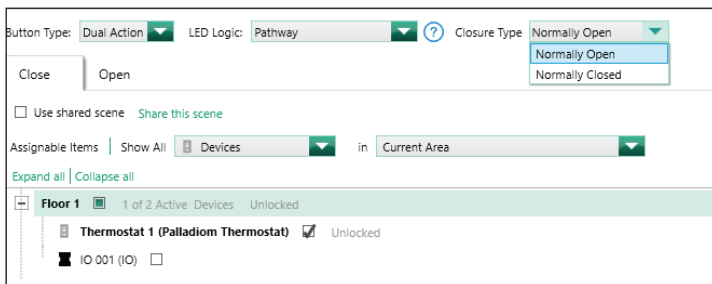

Figure 7
- If the Palladiom thermostat display flashes and doesn't allow changes, or if the HVAC doesn't turn on while the door is closed, ensure the correct CCI sensor type is programmed in "Closure Type" as shown in Figure 7 below.
- If the HVAC does not turn off when the door is opened, ensure the correct CCI sensor type is programmed in "Closure Type" as shown in Figure 7 below.